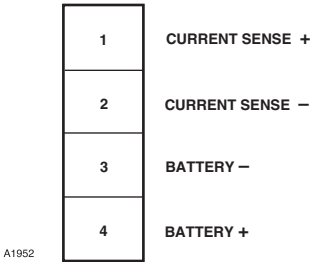

Figure 3-18—J2: Battery Test Points
4. Connect external wiring to the appropriate points on Power Supply. Refer to Figure 3-18 for terminal block locations and Figures 3-17 and 3-18 for terminal identification. Connect the 24 Vdc power wires and the LON network cable to the appropriate points on J1. (Redundant "+," "-", and shield terminals are connected internally.) **Do not** ground any shield at the monitor / power distribution cabinet. Insulate the shields to prevent shorting to the device housing or to any other conductor.
5. Connect a two wire cable between the AC input of the power supply and terminals 1 and 4 on J3, the AC input terminal block on the power supply monitor. See Figure 3-18.